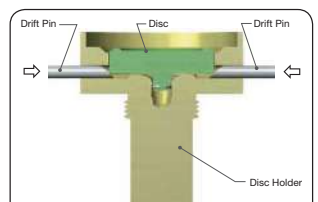

Figure 24: Removing the Disc with Drift Pins
- Start inserting special drift pins into the holes in the disc holder (Figure 24) with the tapered portion of the pins working against the top of the disc, as indicated. See Figure 82 and Table 19 in the Maintenance Tools and Supplies section for drift pin size.